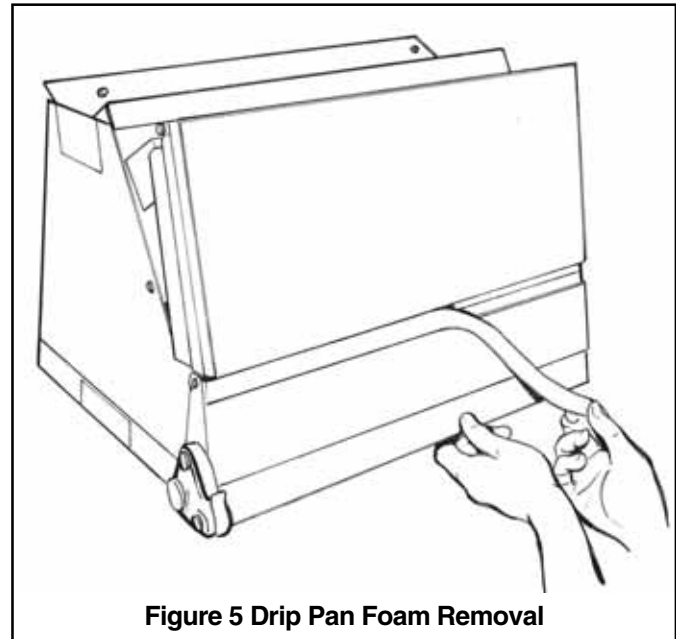

Figure 5 Drip Pan Foam Removal
- a. **For maximum efficiency**, the horizontal drip tray should be removed. See Figures 5, 6 and 7. Tray removal requires that the coil be removed by sliding the coil out on the coil channel supports. There is a coil support tab at the top of the coil connected to the case must be removed first. Remove 1 inch insulation strip covering the lip of the drip tray. The tray is detached by removing the two screws at the drain pan. Remove the two screws holding the two brackets at the top of the coil. Remove drip tray by gently breaking the seal between the drip tray and drain pan.
- a. **For maximum efficiency**, the horizontal drip tray should be removed. See Figures 5, 6 and 7. Tray removal requires that the coil be removed by sliding the coil out on the coil channel supports. There is a coil support tab at the top of the coil connected to the case must be removed first. Remove 1 inch insulation strip covering the lip of the drip pan. The tray is detached by removing the two screws at the drain pan and the two screws holding the two brackets at the top of the coil. Remove drip tray by gently breaking the seal between the drip tray and drain pan.